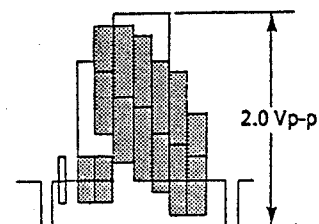

Figure 2-3.
2. Feed the colour bar signal to the Video input terminal. Observe the voltage of the pin 9 of IC201 on the oscilloscope screen, adjust R203 (EE level control) to obtain the value indicated in Figure 2-3.